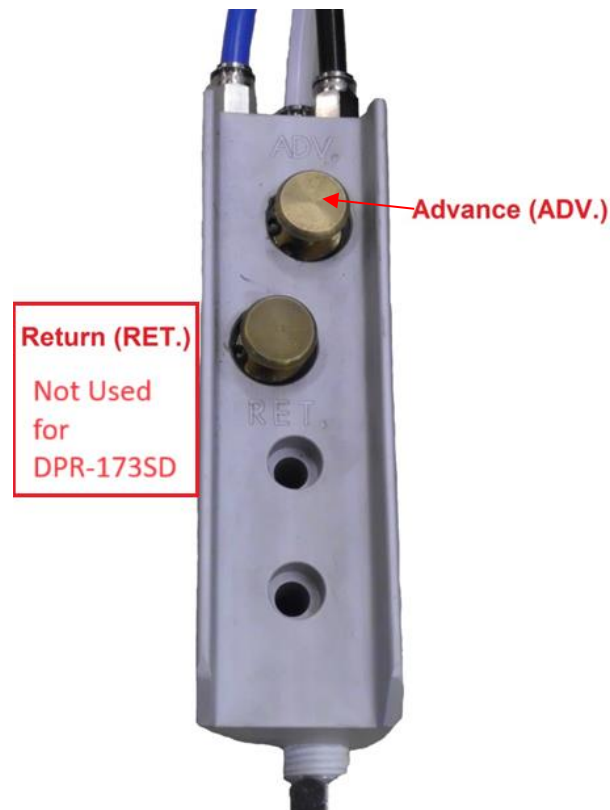

Figure 2 - DPR-173SD – Remote Pendant
- 5.1.2 **Advance** - Press the remote pendant ADV. button (see Figure 2) to start the air motor and advance the cylinder until the desired pressure, load or position is reached. Releasing the ADV. button will stop the motor and allow the cylinder to retract.